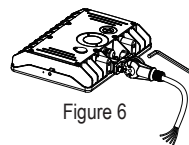

Figure 6
**Step 3:** Using an Allen key (7/32), lock the two halves of the knuckle bracket, together. (Figure 6)